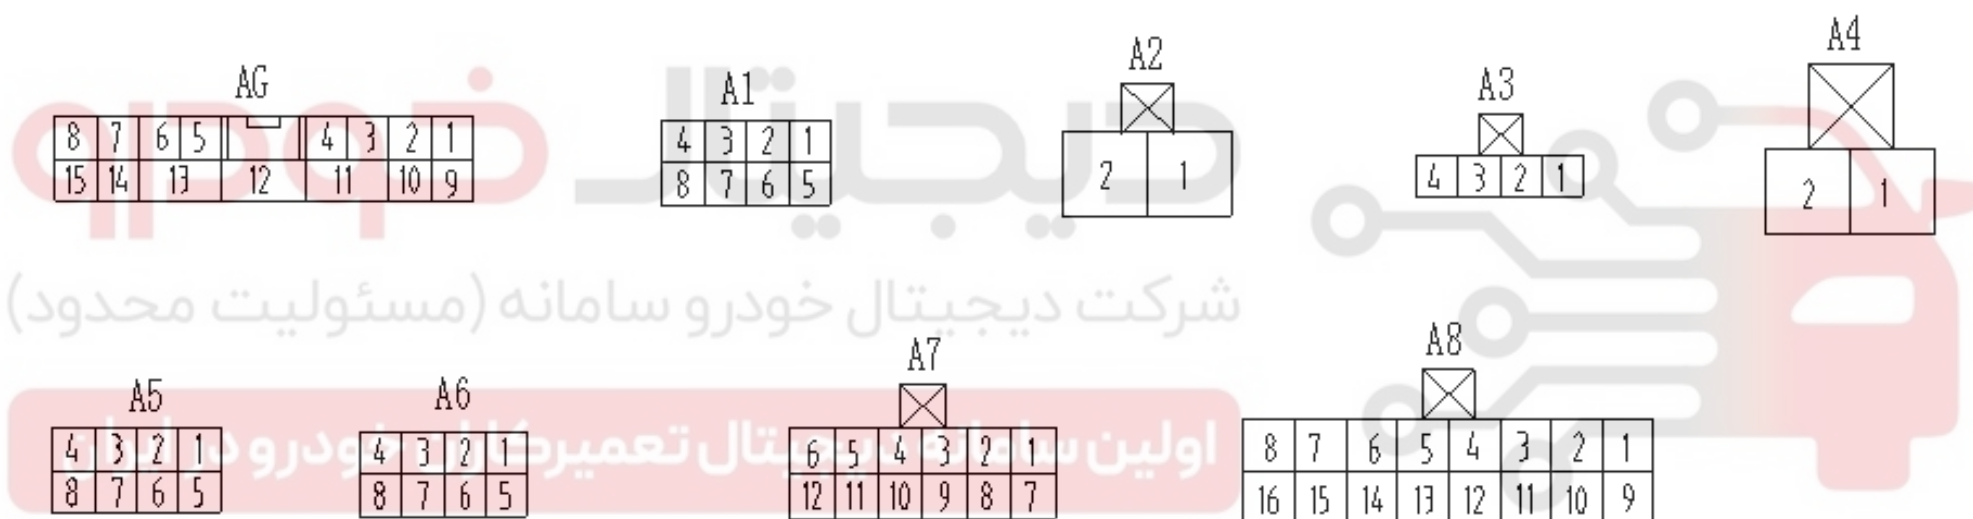

Fig. 4-131
7. Location plan for A/C HNVC earth wire and interfaces connecting the harness in Fig. 4-131